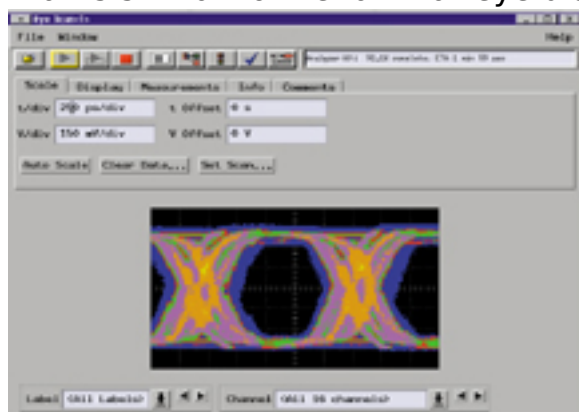

Figure 1. The Eye Scan Image
But a new validation technique called eye scan offers a solution. It came into being with a software feature that Agilent has introduced as an adjunct to the existing 16760A Logic Analyzer. Eye scan enables the user to monitor all arriving signals on all buses at once for activity, in a time range centered on the clock and over the full voltage range of the various signals. The signals are then displayed as an image that is similar to the familiar eye diagram (Figure 1).
•**Cursors** - Two manually-positioned cursors enable the user to accurately read the time and voltage coordinates of the trace appearing in the scan, as shown in Figure 1.
This board enables Xilinx designers to test any high-speed differential signal bus — as well as interoperability between a variety of different sources using the SMA connectors. One of the really significant features is the fact that eye scan is able to analyze up to 16 channels of the bus in parallel. It scans through all of the voltage and time areas so as to deliver a graph similar to the one in Figure 1 for the entire bus. The scanning time depends upon the granularity programmed for the image and the transitions of the signal. In the case of this Xilinx board, scanning all 16 channels required approximately 5 minutes.
Once scanned, designers can then review all the eye scans, at their leisure, to gain a clear picture of the full dynamics occurring on all channels of the bus. They can view the behavior of any channel by simply clicking on the paging buttons shown adjacent to "Pod A1 Channel" shown in Figure 1.